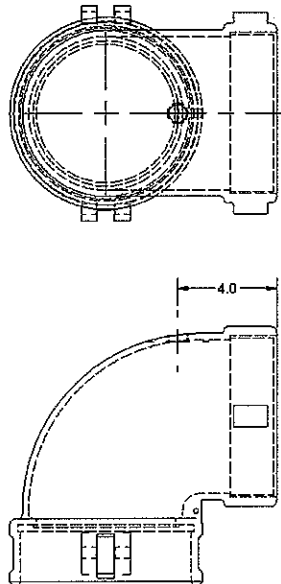

Figure 1
- 4) Create a mark on the Center Line of the elbow, four (4) inches in from the face of the elbow; see figure 1